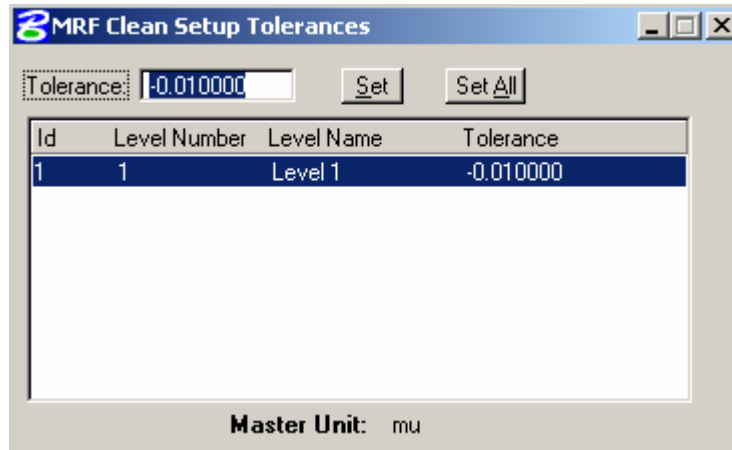

Figure 3.2.3 *Setup Tolerances*
This button opens the “*Setup Tolerances*” dialog box (Figure 3.2.3). The default tolerance value is -0.01 . Tolerances should be specified in **Master Units (MU)**. Only levels with non-negative tolerances will be processed. The “*Setup Tolerances*” dialog box shows all levels containing valid elements along with each level’s current tolerance setting.